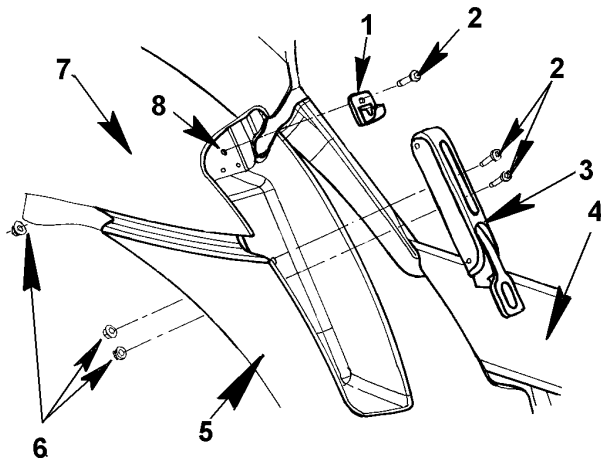

Figure 40 Hood Latch Assembly
2. Loosen and remove the hood clip mounting bolts, washers and lock nuts (Figure 40, Items , 2 and 6) and remove the clip assembly (Figure 40, Item 1) from the fender assembly.
3. Locate, loosen and remove the mounting bolts, washers and lock nuts (Figure 40, Items 2 and 6) securing the fender extension latch mechanism (Figure 40, Item 3).